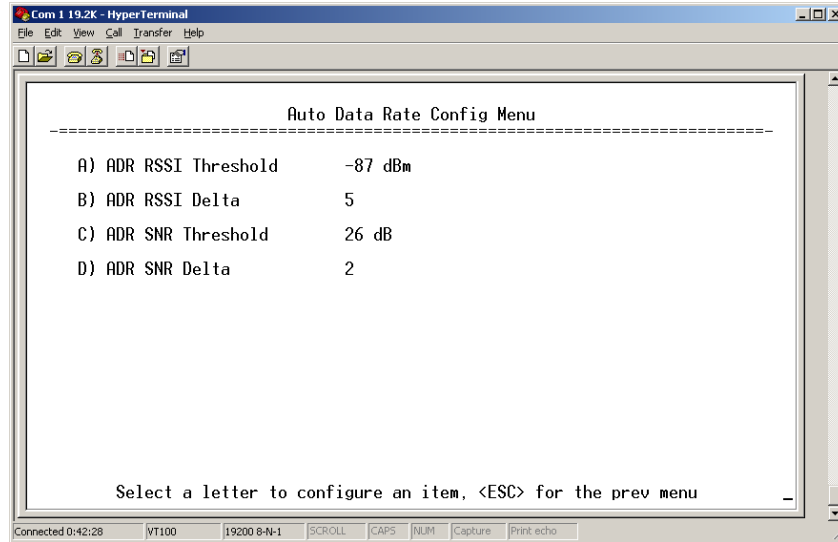

Figure 3-21. Auto Data Rate Submenu
- **Auto Data Rate Configuration**—This selection brings up a submenu as shown in Figure 3-21. For the settings in this submenu to have any effect, the Data Rate menu item (Page 52) must be set to **AUTO**.
The Auto Data Rate Configuration submenu consists of two threshold settings, each accompanied by a “delta” (amount of change) setting. Using the example of Figure 3-21, assume the current RSSI is -87 dBm. An RSSI reduction of more than 5 dBm (more negative RSSI number) would cause a data rate change from high speed to standard speed. Once the data speed has changed to standard speed, an RSSI *increase* to the level of -82 dBm would be required for the radio to switch back to high speed. This provides an operational “window” or hysteresis range over which the data speed stays constant despite minor changes in signal strength.
The SNR (signal-to-noise ratio) threshold and delta operate in the same manner described above, with the exception that the units are expressed in relative dB instead of dBm. In the example of Figure 3-21, a drop of 2 dB from a level of 26 dB would result in a data rate change from high speed to standard speed. For the radio to return to high speed, the SNR would need to increase to 28 dB. (*See Glossary for definition of SNR.*)
Figure 3-21 shows the default values for RSSI and SNR parameters but these may be changed to optimize performance in your environment. In properly designed systems, experience has shown that RSSI levels between -50 dBm and -90 dBm provide reliable operation, provided the signal-to-noise ratio is 17 dB or above. Tailoring the thresholds with these baseline values in mind, can provide improved performance in your system.